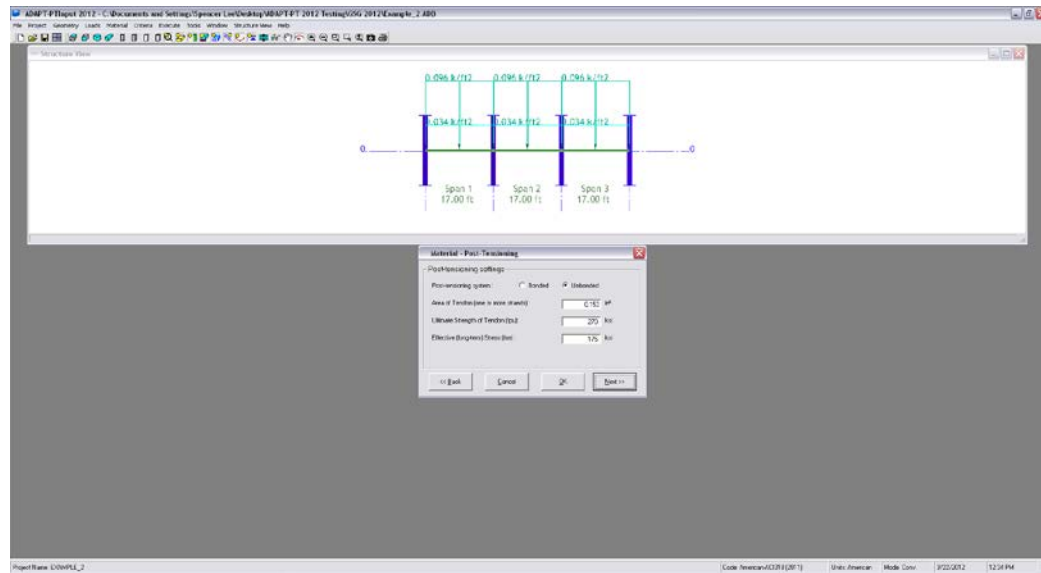

FIGURE 3.1-11
3.1.4.3 Enter The Post-Tensioning System Parameters (Fig. 3.1-11)